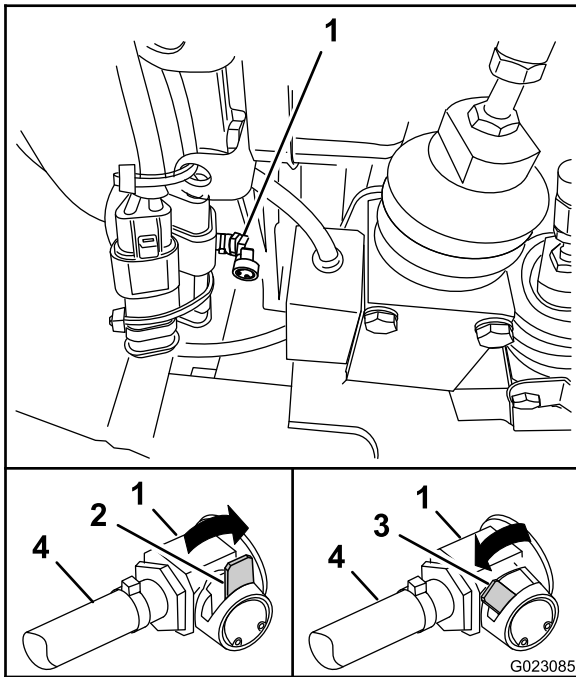

Figure 58
1. Locate the oil-drain valve at the front, bottom area of the engine (Figure 58).
2. Rotate the lever for the drain valve counterclockwise to the open position. (Figure 58).
3. When the oil has completely drained from the engine, rotate the lever on the drain valve clockwise to the closed position (Figure 58).